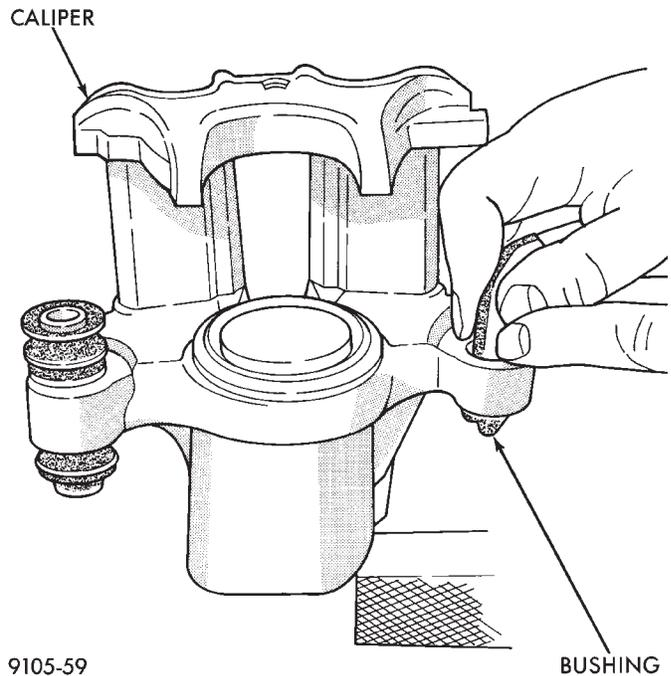

Fig. 10 Installing Caliper Guide Pin Sleeve Bushings
(2) Using your fingers insert the folded bushing into the caliper assembly (Fig. 10). **Do not use a sharp object to perform this step do to possible damage to the bushing.**
(3) Unfold the bushing using your fingers or a wooden dowel until the bushing is fully seated into